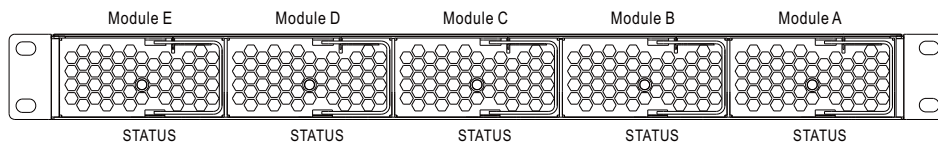

Figure 4-1 RHP System assembly diagram
- ⊙ Inset 1 ~ 5 pieces of RCP/RCB-1600 (with the same output voltage and current) into the RHP-1U (refer to Figure4-1)